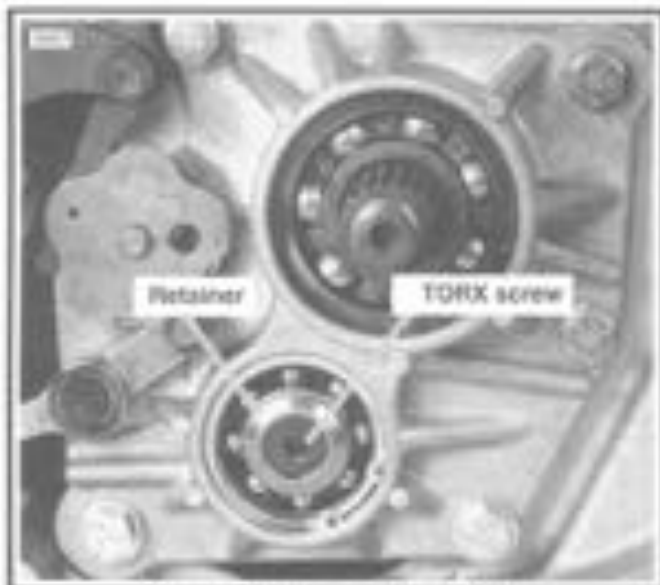

Figure 6-21. Countershaft Retainer
10. See Figure 6-21. Lock transmission in gear. Remove countershaft Torx screw and retainer.